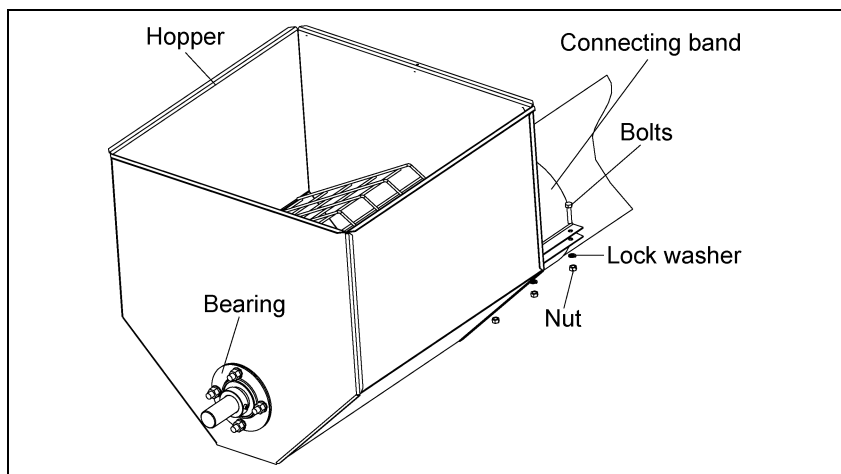

Figure 4F
- A. Slide the hopper onto the tube and align the end of the flight approximately 1/2" from the surface of the bearing. With the proper distance set, install the proper bolt, lock washer and nut, and secure the hopper to the tube. (*See Chart below and See Figure 4F.*)